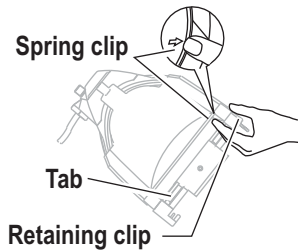

Figure 7
- Step 3: Tilt the front of the fixture down at least 45°. See Figure 7.